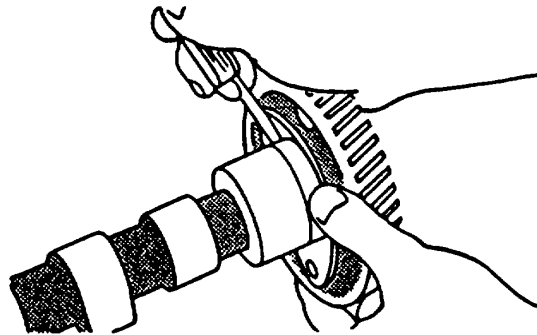

FIGURE 3-130. Measuring Thrust Plate Clearance
- (1) Check thrust plate clearance using a feeler gage, refer to FIGURE 3-130.
- (2) New part clearance is 0.003 to 0.009 inch (0.08 to 0.23 mm). Maximum allowable clearance is 0.015 inch (0.38 mm). Replace parts as necessary.